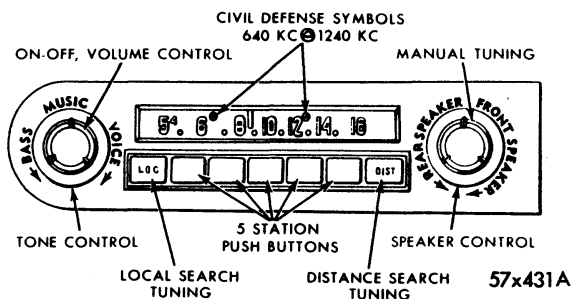
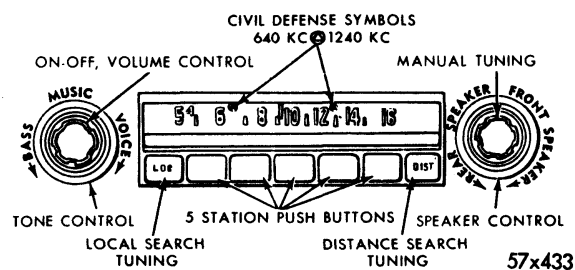
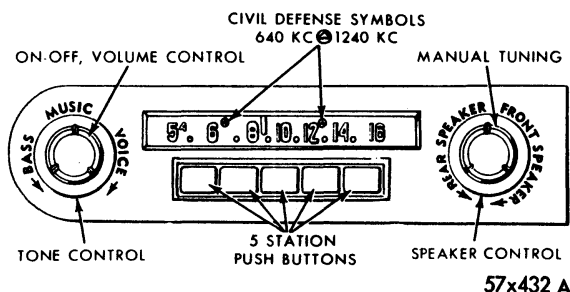

Fig. 1—Operating Controls 922
Fig. 2—Operating Controls 924
Fig. 3—Operating Controls 851
Refer to Lubrication Chart, as shown in Figure 1, and to the following information:
The Electro Touch-Tuner (Model 922) (Fig. 1) and (924) (Fig. 2), have six tubes and two transistors. It includes a variable tone control with manual tuning, push button tuning and automatic search tuning. The Music Master (Model 851) (Fig. 3) has five tubes and one transistor. It includes a variable tone control with manual tuning and push button tuning.